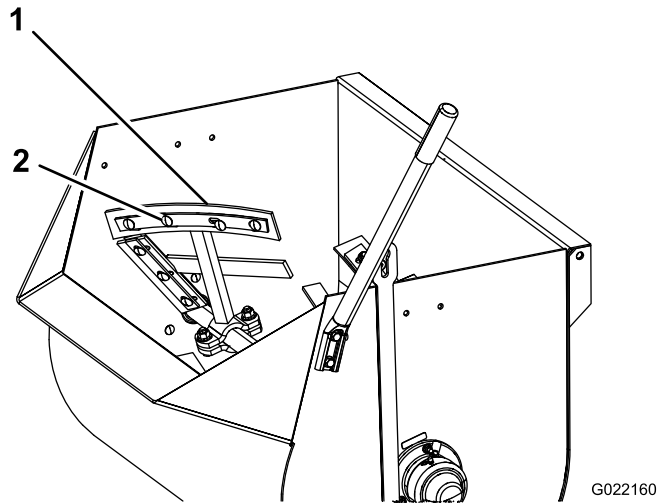
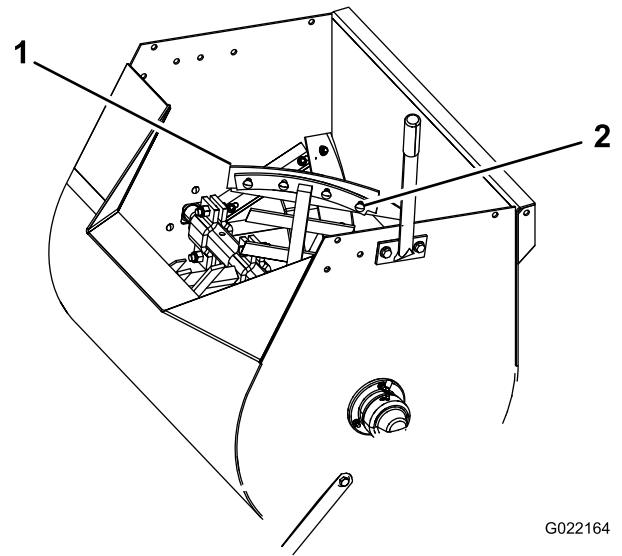
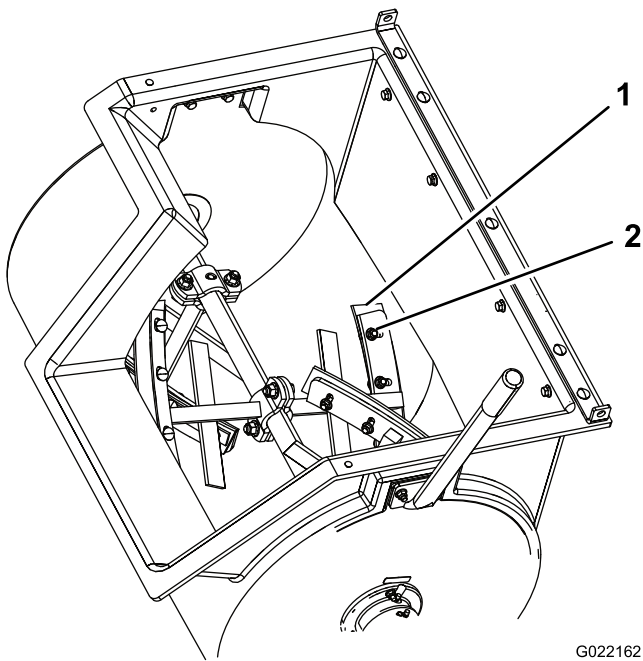

Figure 43
Figure 45
Figure 44
- Loosen the nuts and bolts that secure the paddle blades to the paddles (Figure 43, Figure 44, or Figure 45).